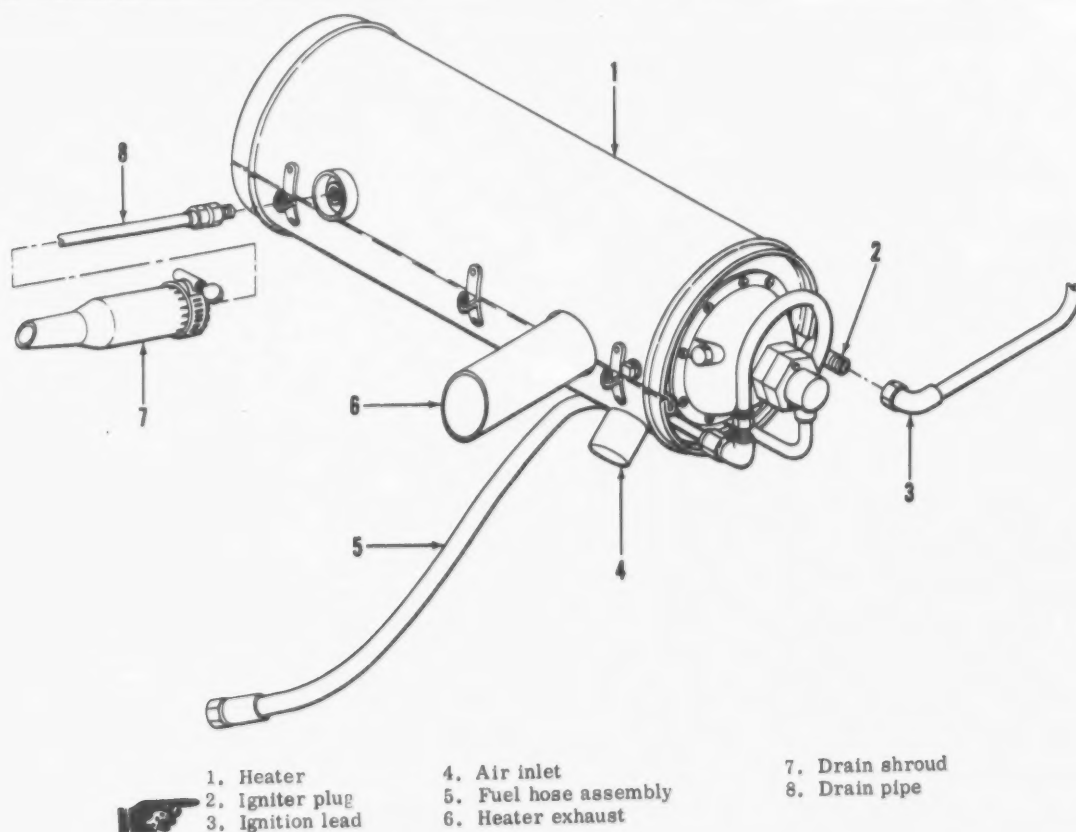
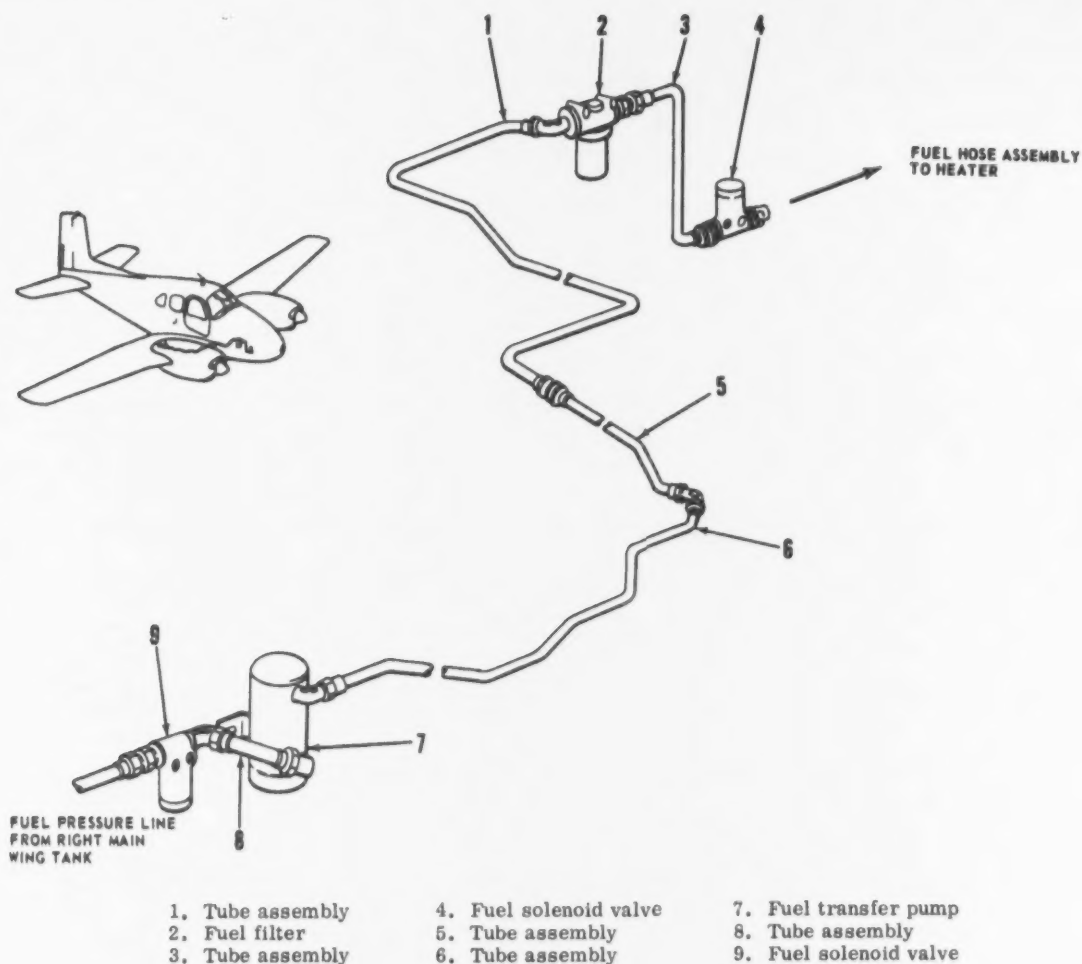

Figure 11-5. Heater (U-8D, U-8G, and RU-8D)
Figure 11-6. Heater fuel system (U-8D, U-8G, and RU-8D)
11-14. The 50,000 BTU heater (figure 11-5) is located beneath the floorboards on the right-hand side of the nose equipment compartment. The heater is essentially a cylindrical combustion chamber within a hollow radiator surrounded by a jacket. Incoming ventilation air passes between the combustion chamber and
b. Removal. (1) Remove access cover from lower outboard side of forward bulkhead, in nose equipment compartment.
(2) Remove right-hand floorboard in nose equipment compartment and two floorboard supports from over heater.
(3) Disconnect ignition lead (3, figure 11-5) from igniter plug (2).
(4) Disconnect fuel hose assembly (5) from solenoid valve (4, figure 11-6) in nose wheel well. Pull hose assembly through grommet. Cap open valve port and hose fitting.
(5) Remove cover plate from right-hand side of nose wheel well. Detach rubber drain line from metal drain pipe (8, figure 11-5).
(6) Remove drain shroud (7) and drain pipe
(8) from bottom of heater (1).
(2) Connect combustion air duct to air inlet (4).
(3) Fasten drain pipe (8) and drain shroud (7) to heater (1).
(4) Insert rubber drain line over end of metal drain pipe (8). Install access plate on right-hand side of nose wheel well.
(5) Insert fuel hose assembly (5) through grommet. Remove caps and apply thread compound (item 44, table 1-8) to male threads.
(6) Connect fuel hose assembly (5) to solenoid valve (4, figure 11-6) in nose wheel well.
(7) Connect ignition lead (3, figure 11-5) to igniter plug (2).
(8) Install two floorboard supports over heater.
(9) Install right-hand floorboard in nose equipment compartment.
(10) Install access cover on lower outboard
11-16. Fuel is supplied to the heater from the right main wing tank by an electrical fuel transfer pump located in the right main wheel well. Fuel flow is controlled by two fuel solenoid valves, one in the right wheel well and the other in the nose wheel well. The fuel is cleaned of foreign matter by a fuel filter located in the nose wheel well, just aft of the solenoid valve. The fuel is sprayed from the heater fuel nozzle into the heater combustion chamber and ignited by the igniter plug. (See figure 11-6). Troubleshooting consists of locating and correcting failure, leakage, or unsatisfactory operation of the heater fuel system. The following procedures list the most common troubles, probable causes, and possible remedies.
11-17. FUEL FILTER. The fuel filter (2, figure 11-6) is equipped with a relief valve which opens to maintain fuel flow if the filter element becomes clogged with foreign matter. The fuel filter is mounted on the right-hand side of the nose wheel well.
a. Removal. (1) Disconnect heater fuel tube assemblies (1 and 3, figure 11-6) from fuel filter (2) and cap all open fittings.
(2) Remove mounting screws, spacers, washers, and nuts. Remove filter.
d. Reassembly. (1) Place new packing preformed on filter bowl.
(2) Assemble spring and filter element in bowl.
(3) Install bowl in housing and tighten hand tight.
(4) Secure with lockwire.
e. Installation. (1) Position fuel filter (2, figure 11-6) on right-hand sidewall in nose wheel well. Secure with screws, spacers, washers, and nuts.
(2) Remove caps from fittings. Apply thread compound (item 44, table 1-8) to male threads, and connect tube assemblies (1 and 3) to fuel filter (2).
11-18. FUEL TRANSFER PUMP. The fuel transfer pump (7, figure 11-6) consists of a sealed motor, a plunger-type pump, a filter assembly, and a capacitor for radio interference suppression. A shielded cable connects the capacitor and pump motor. The pump is mounted on the inboard side of the right wheel well and is connected in series with the fuel solenoid valves (4 and 9), so that the valves and pump are energized simultaneously.
a. Removal. (1) Disconnect heater fuel tube assemblies (6 and 8, figure 11-6) from fuel transfer pump (7). Cap all open fittings.
(2) Disconnect electrical cable from fuel transfer pump and capacitor.